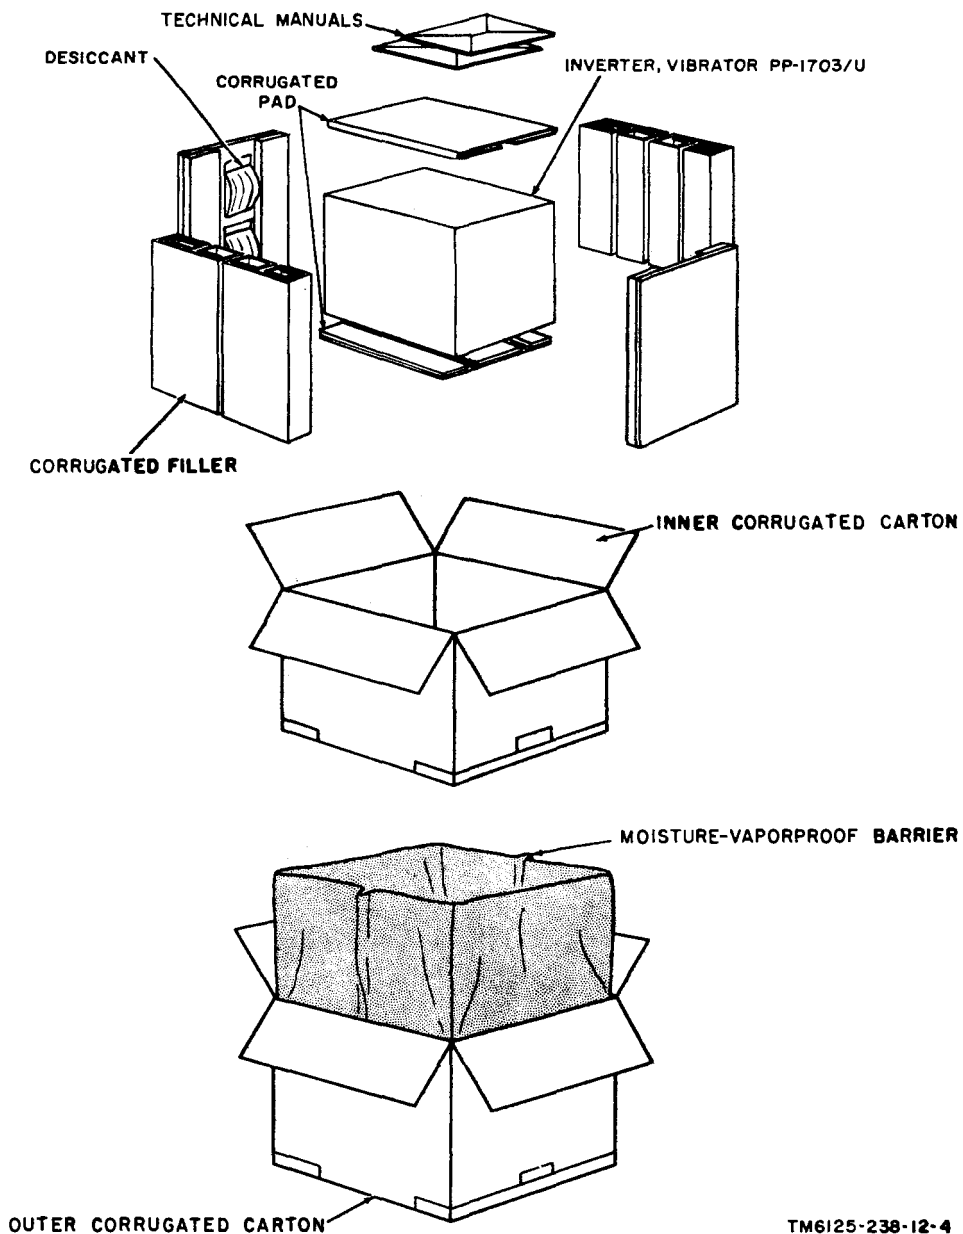

Figure 2. Typical packaging.
a. Packaging Data. When packed for shipment, the PP-1703/U is padded on all sides and packaged in double corrugated cartons with a sealed moisture-vaporproof barrier between the inner carton and the outer carton. A diagram of atypical packaging arrangement is shown in figure 2. Packed for shipment, the dimensions are 13-1/2 inches high, 15 inches wide, 12-1/2 inches deep, has a volume of 1.47 cubic feet, and weighs 41 pounds.
- (1) Open the outer corrugated carton and the moisture-vaporproof barrier that covers the inner corrugated carton.
- (2) Remove the inner corrugated carton.
- (3) Open the inner corrugated carton.
- (4) Remove the corrugated pads and the equipment from the inner corrugated carton.